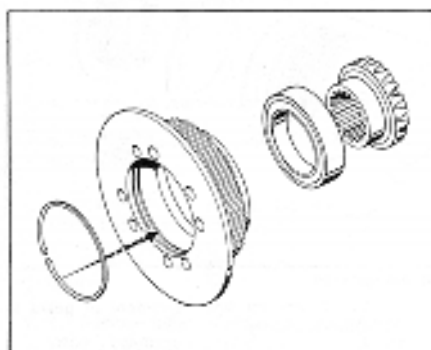

Fig. 27. Forward Clutch Flange, Roller Bearing and Bevel Gear.
7. Press ball bearing into forward clutch flange. Press bevel gear into ball bearing. See fig.27. In 'HP' units be sure to replace snap ring in innermost groove of forward flange.